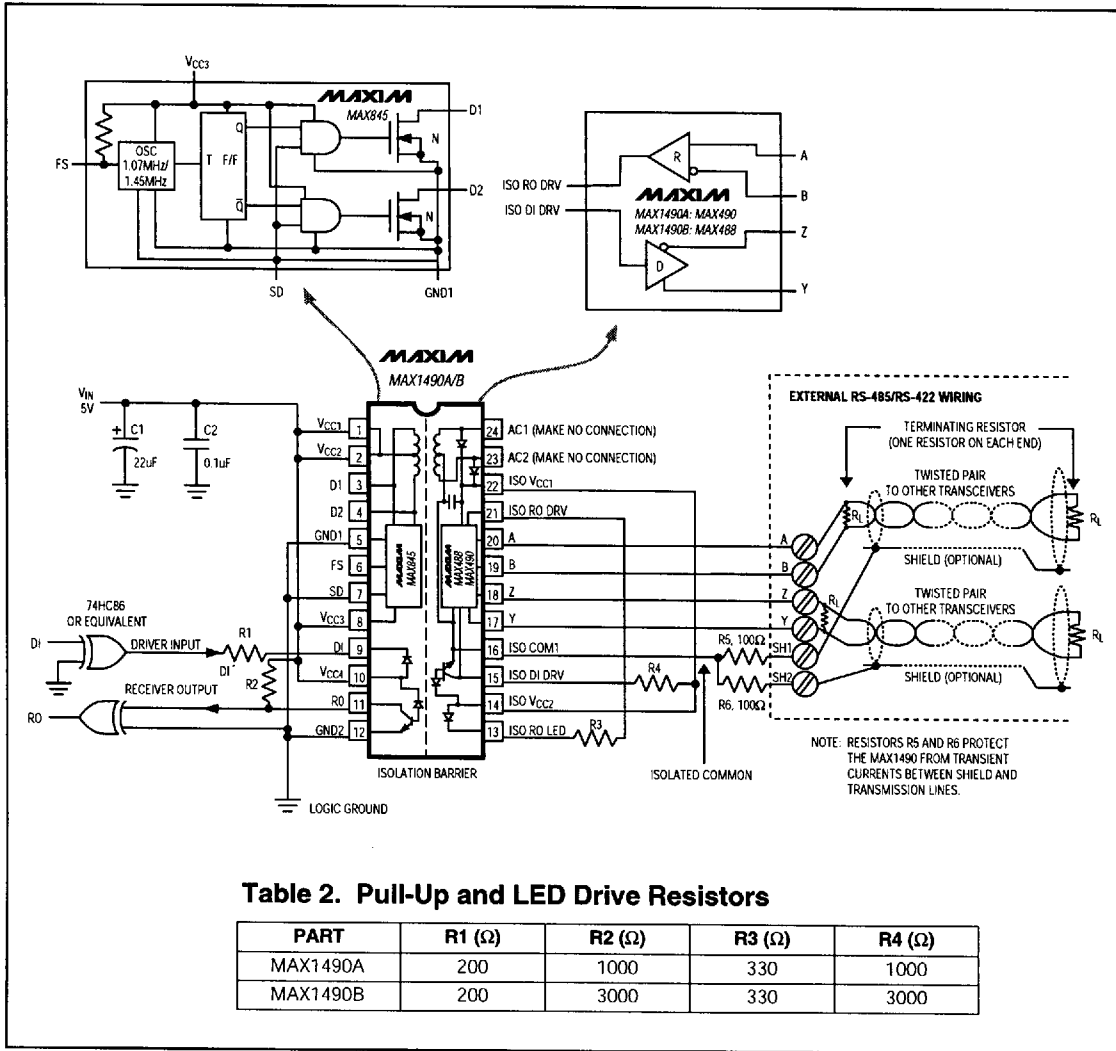

Figure 2. MAX1490A/MAX1490B Detailed Block Diagram and Typical Application Circuit
**Note:** For DE+ and DI+ pin descriptions, see *Detailed Block Diagram and Typical Application Circuit* (Figure 1 for MAX1480A/B, Figure 2 for MAX1490A/B).
\* For DE1 and DI1 pin descriptions, see *Detailed Block Diagram and Typical Application Circuit* (Figure 1 for MAX1480A/B, Figure 2 for MAX1490A/B).
The MAX1480A/MAX1480B/MAX1490A/MAX1490B are specified and characterized using the resistor values shown in Table 1 of Figure 1 and Table 2 of Figure 2. Altering the recommended values can degrade performance.